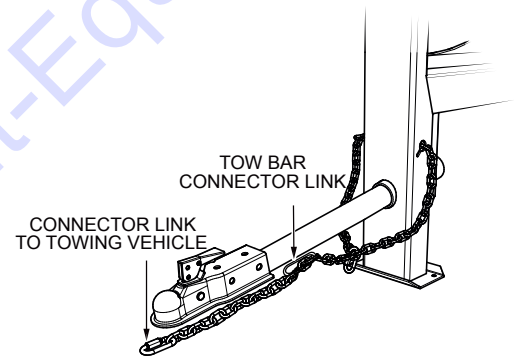

Figure 8. Extending Safety Chain
5. Extend the safety chain along the length of the tow bar (Figure 8), looping it through the tow bar's connector link. Remove any excess chain slack.
6. Connect the free end of (connector link) the safety chain to the towing vehicle (Figure 8). Remember it is critical that the length of the chain be properly adjusted, to prevent the draw bar and the front of the mixer stand from dropping to the the ground (contact) in the event the draw bar becomes disconnected from the towing vehicle.